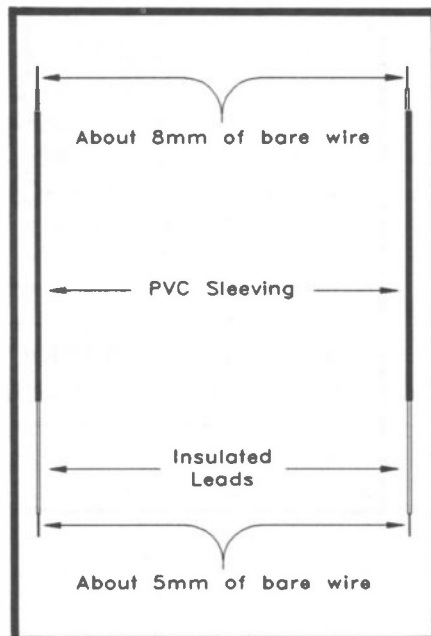

Figure 6. Preparing the probes.
e) We now need to make the probes. These are made up from two pieces of insulated wire (coloured red and black) and two pieces of hollow insulated sleeving (also coloured red and black). The wire is multi-stranded, which means that the metal core consists of several very fine wires. The probes should be made up as shown in Figure 6, use wire strippers to remove the insulation where shown. The bare ends of the leads should be twisted together to prevent the wires from splaying apart and breaking off. Slide the red sleeving over the red wire and the black sleeve over the black wire. This sleeving forms the body of each probe. Connect the two wires to the